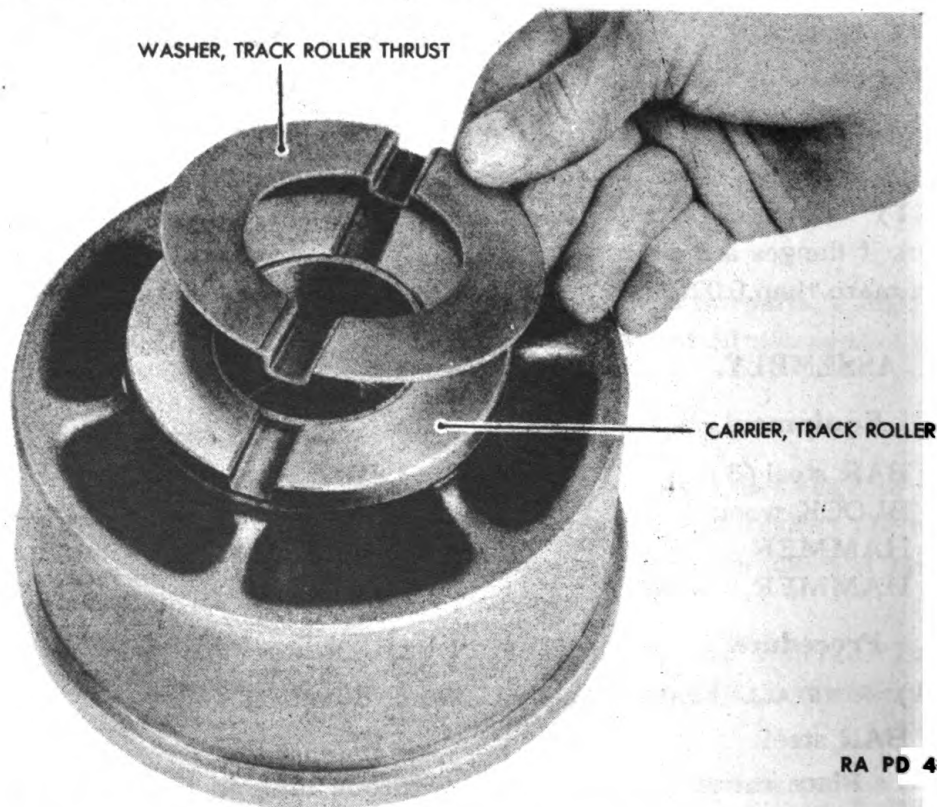

Figure 146 — Track Roller Carrier Thrust Washer Installation
- (4) INSTALL TRACK ROLLER CARRIER THRUST WASHERS (fig. 146).